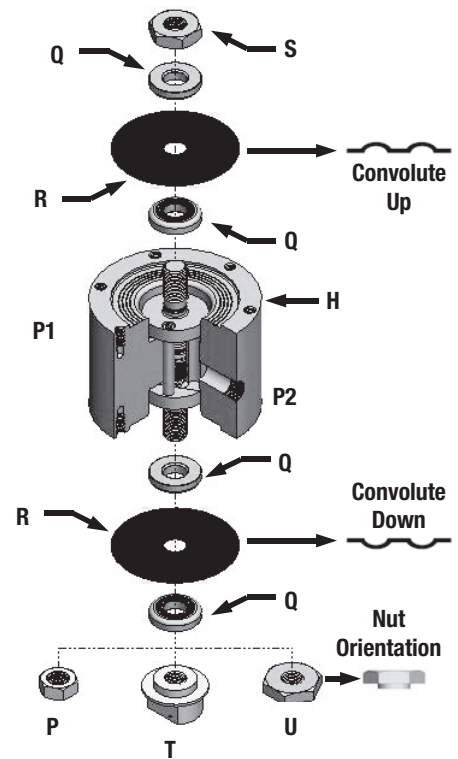

Figure 9
(Figure 9)
**Step 22:** Slide one grooved Washer (Q) onto both the Outside Piston (J) and Bottom Inside Piston (O), with the grooves facing away from the Bottom Body (H).
**Step 23:** Install one Convuluted Diaphragm (R), oriented as shown in Figure 9, onto each Washer (Q).
**Step 24:** Install another Washer (Q) onto each Piston (J, M) with grooves facing the Diaphragms (R).
**Step 25(1):** Thread the Aluminum Special Lat Nut (S) onto the Bottom Inside Piston (O).
- For a VRP-SB-PID-40, thread another 1/2-20 SS Hex Jam Nut (P) onto the Outside Piston (J).
- For a VRP-SB-PID-80, thread a SS Spring Nut (T) onto the Outside Piston (J).
- For a VRP-SB-PID-125, thread an Aluminum Spring Nut (U) onto the Outside Piston (J).